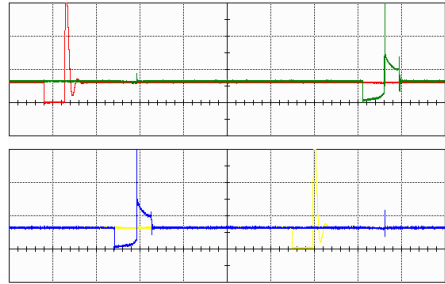

Figure 4.39
- *2 grids (1-3 2-4)* : This mode is the same as above, but in the first window you can see channels 1 and 3 and in the second one channels 2 and 4 (Figure 4.39)